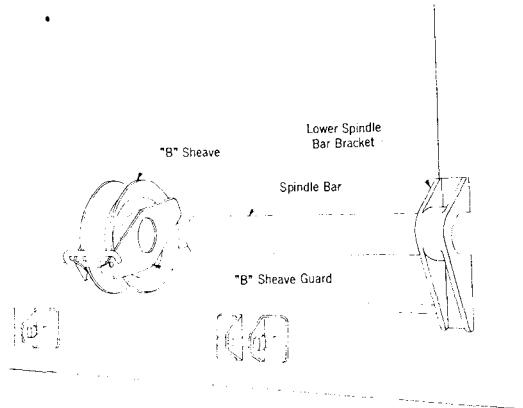

Fig. 2—Installation of B Sheave Guard
4.01 To install one sheave guard, insert the B sheave between the side plates of the guard so the spindle holes in the guard and the sheave are in alignment as shown in Fig. 2.